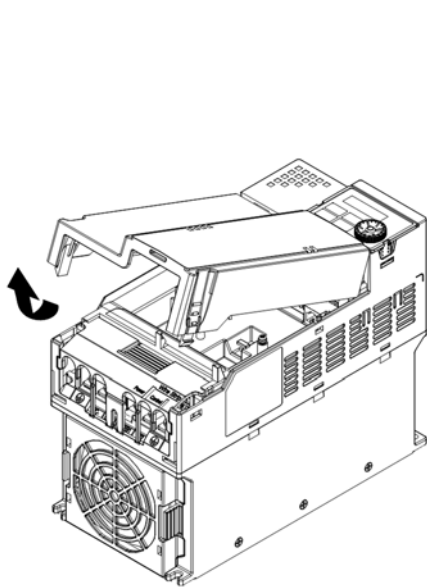

Figure 8-32
1. As shown in the Figure 8-32, shut down the power of the motor drive and then remove the front cover.